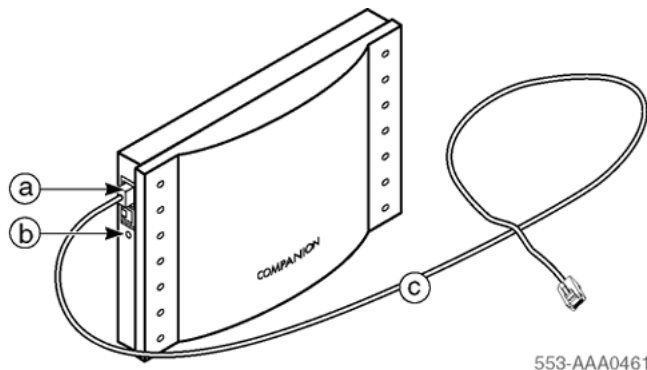

Figure 14: Basestation
- The DMC8 and DMC8-E feeding phantom power over the UTP Cat 5 cable signaling pairs, connected to (a) in Figure 14: Basestation on page 28
- A local power supply, connected to (b) in Figure 14: Basestation on page 28